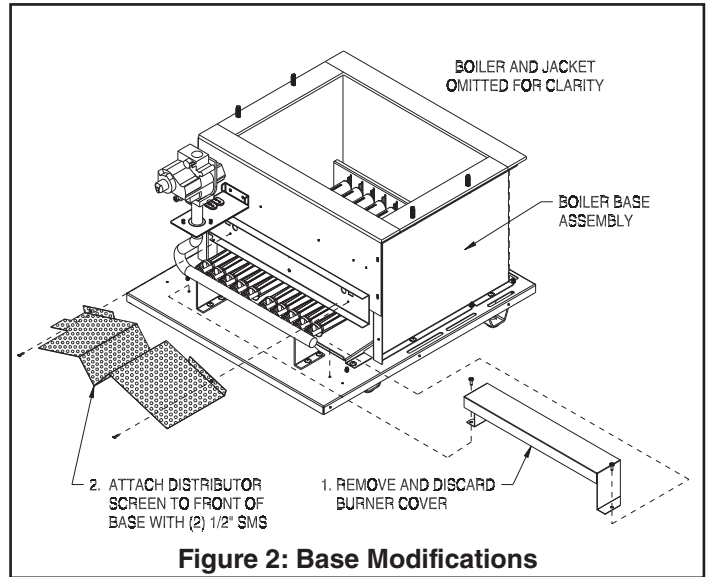

Figure 2: Base Modifications
- On natural gas boilers remove and discard the burner cover shown in Figure 2.
- Attach the distributor screen to the front of the base as shown in Figure 2. (This screen is not required on all boilers – see Table 1). Secure with two of the 1/2" sheet metal screws provided. When locating this screen on the base, make sure that the screws pass through the marked holes in the screen.
- Failure to remove the burner cover shown in Figure 2, or to install the distributor screen when called for in Table 1, could result in personal injury or death due to carbon monoxide poisoning.